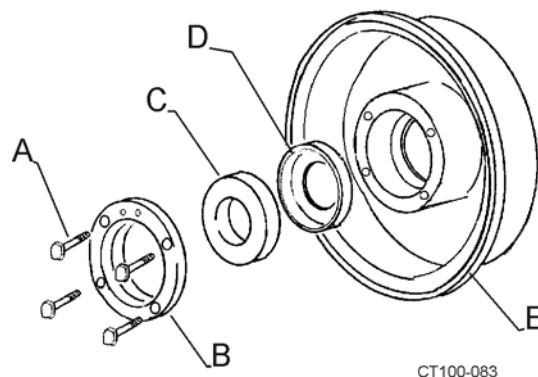
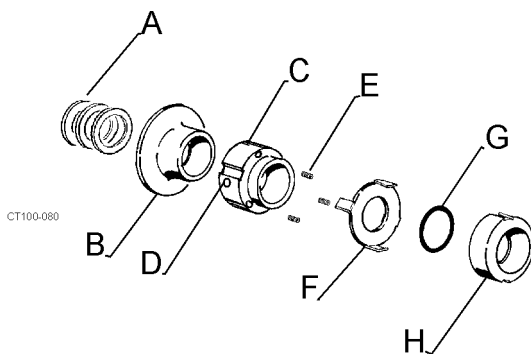

Figure 7 - Stationary Seal Assembly
Figure 9 - Type 1 Seal Assembly
1. Lightly lubricate both sides of the L-gasket (Figure 7, item D) with a sanitary lubricant and insert into the backplate seal cavity.
2. Place the stationary seal into the L-gasket. (Figure 7, items C and D).
3. Place the seat retainer over the stationary seal and secure retainer with four 1/4-20 x 1/2 inch hex head cap screws. (Figure 7, items B and A).
4. Slide the tabbed washer (Figure 7, item F) over the impeller shaft and engage the tabs of the washer into notches on the outside of rotary seal. (Figure 9, items F and H).
5. Install the three seal springs into holes in the spring retainer. (Figure 9, items C and E). Hold the springs in place with RTV silicone sealant.
6. Slide the spring retainer over the impeller shaft until the slots in the spring retainer engage the drive tabs on washer and springs rest against the washer. (Figure 9).
8. Lock the spring retainer in place by tightening the set screws. (Figure 9, item D).
9. Install the deflector on to the impeller shaft. (Figure 9, item B).